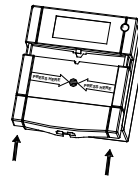

Fig. 7: Repositioning the front face
5. Clip the front face onto the body (see Fig. 7).